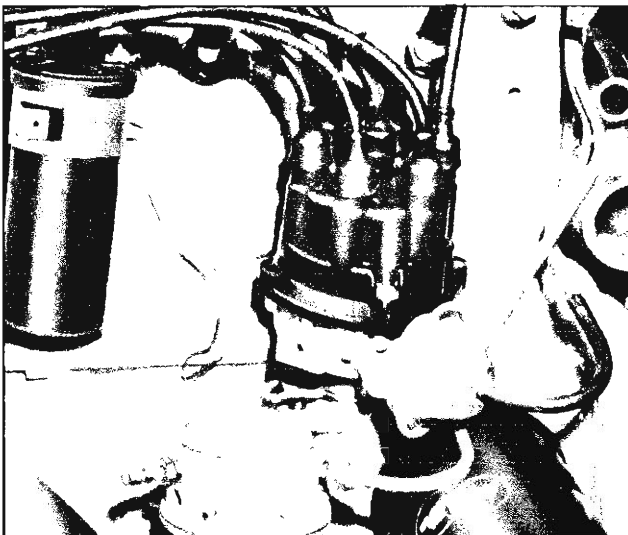

Fig. 47—Distributor Installed
3. Replace and tighten distributor hold-down bolt and clamp. Connect primary lead to coil. Also install spark plug and coil secondary wires if removed (fig. 47).
7. Install cap, distributor primary lead to coil, check all high tension wire connections and connect spark plug wires if they have been removed (see fig. 47). It is important that the wires be installed in their proper location in the supports.